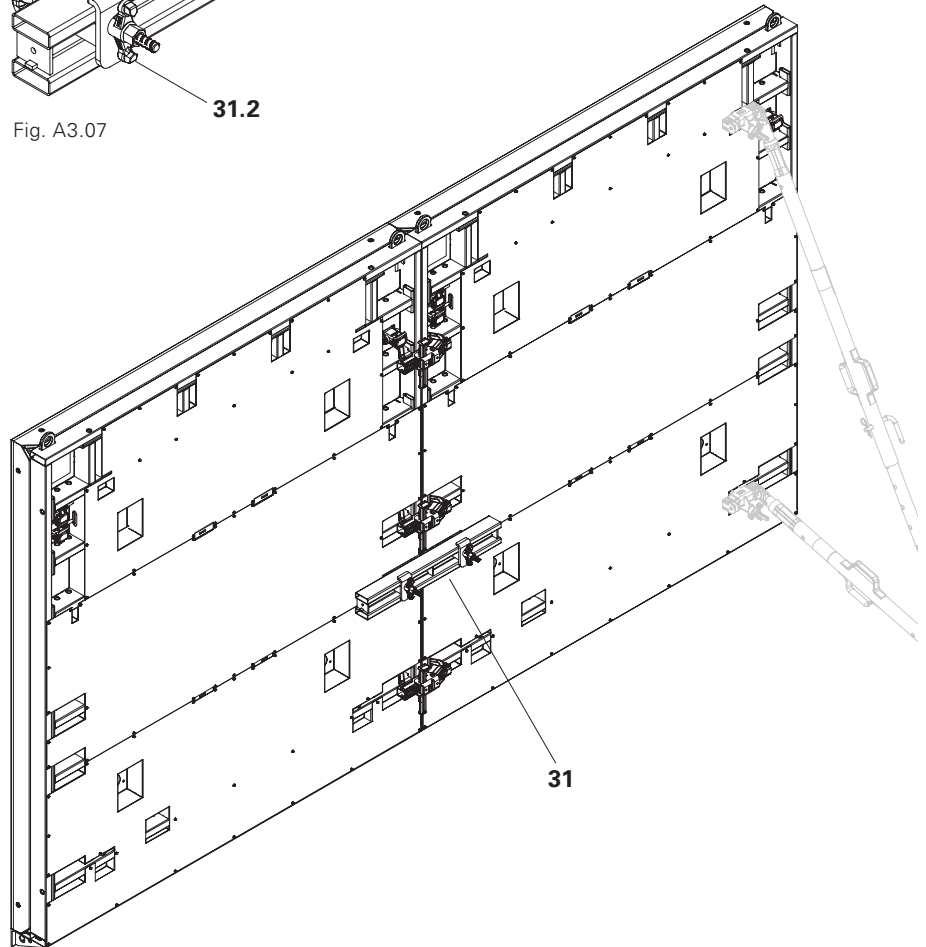

Fig. A3.08
- Standard Heated Panel joint (Fig. A3.08)